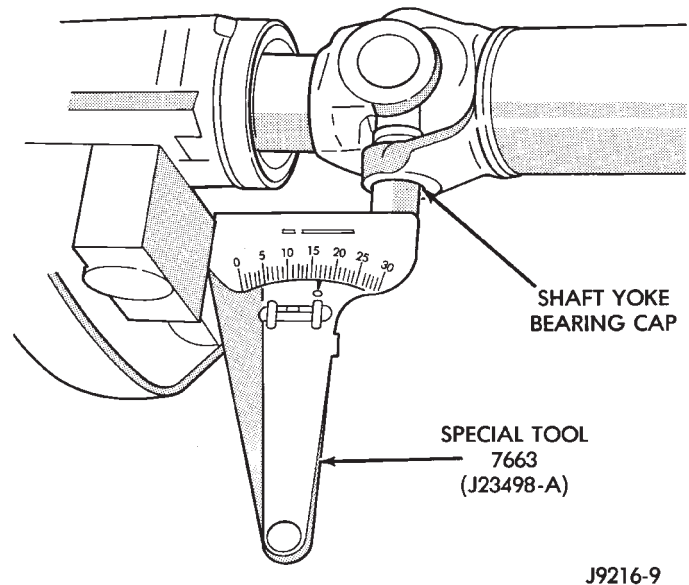

Fig. 10 Propeller Shaft Angle Measurement (C)
(3) Rotate propeller shaft 90 degrees and place Inclinator on yoke bearing cap, or propeller shaft tube on CV propeller shaft, parallel to the shaft (Fig. 10). Center bubble in sight glass and record measurement. This measurement can also be taken at the rear end of the shaft.